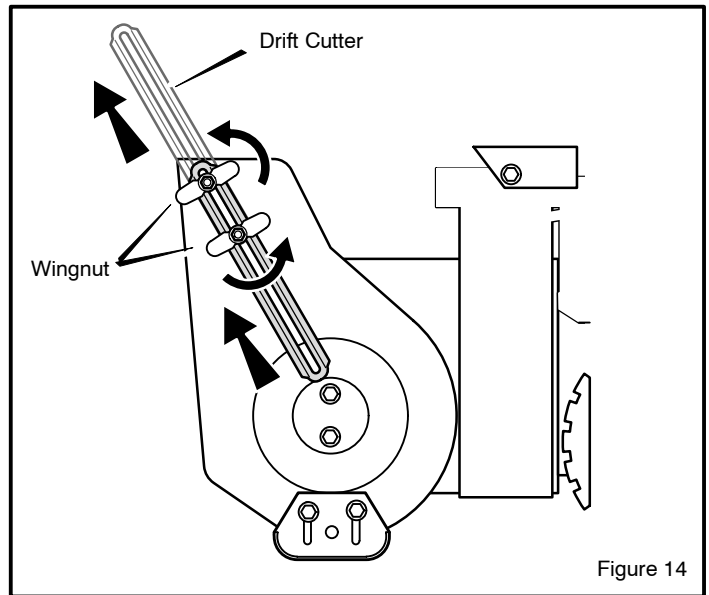

Figure 14
1. Loosen the **wingnuts** that secure the **drift cutters** to the auger housing (see Figure 14).